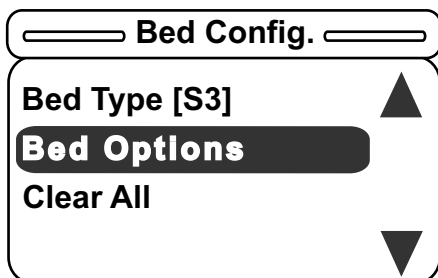

Figure 28 – Bed Options
- After you select the Bed Type, **Bed Options** becomes available. Press **Enter** on the footboard panel to choose the options for the product (Figure 28).